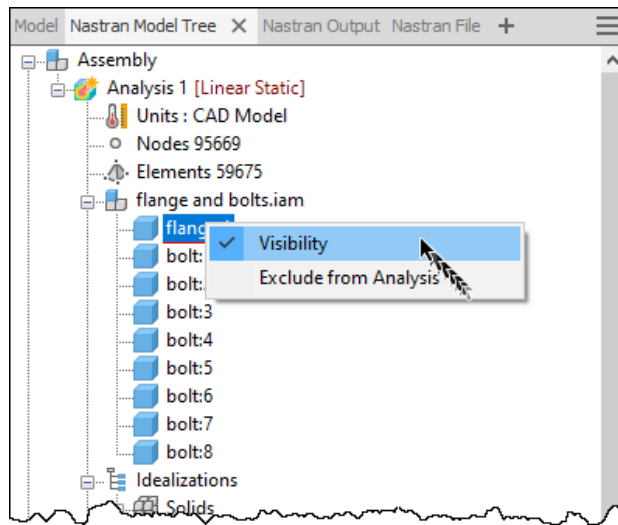

Figure 32 – Make the flange part invisible.
2. Selecting the contact face on each bolt head is difficult because the flange is in the way. You can hide the flange by right-clicking on the part in the Model Tree and unchecking “Visibility”. Although the mesh is still shown, no faces can be selected on the flange because the CAD body is hidden. See Figure 32.